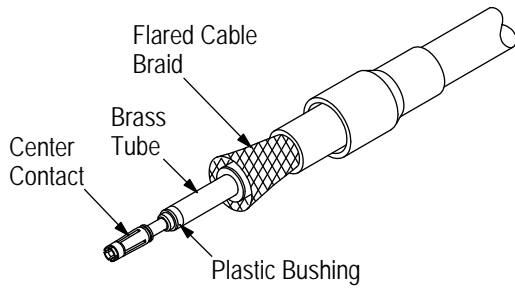

Figure 3
- For connectors that include the plastic bushing and a brass tube, flare the cable braid, then slip the tube (flared end of first) then the bushing over the cable dielectric. See Figure 3.
3. Insert center conductor into center contact. The center contact shoulder must be positioned against the cable dielectric as shown in Figure 3. Be sure that the cable insulation does not enter the wire barrel of the center contact.